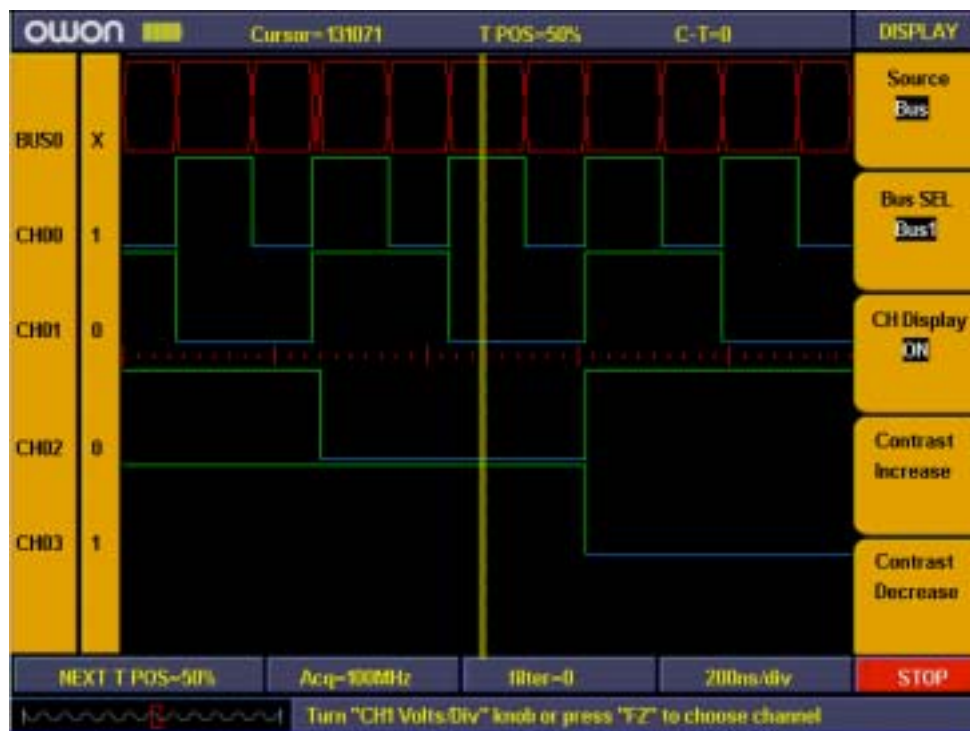

Fig 77 : Display setting
- Channel display setting finished (refer to Fig. 77)